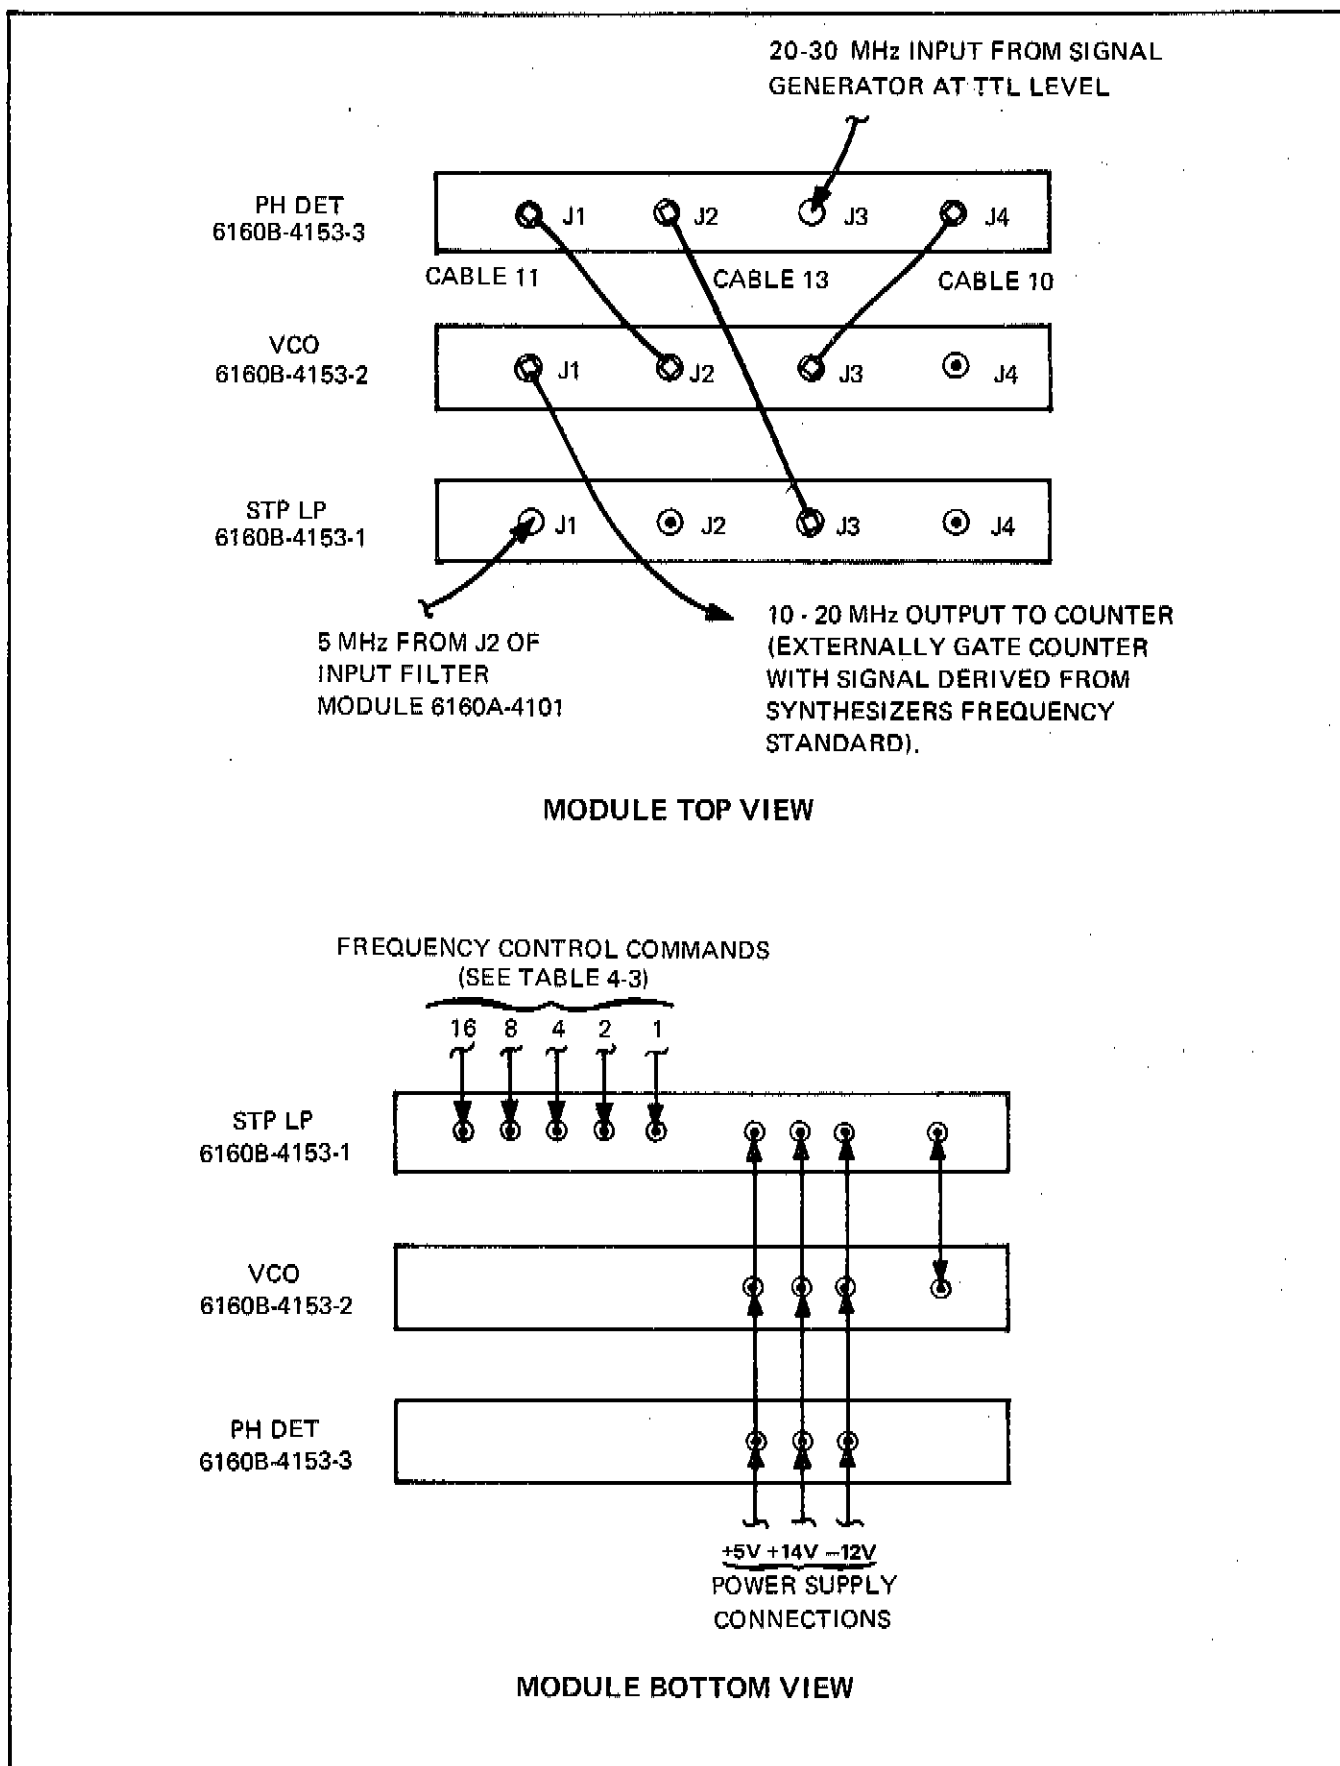

Figure 4-9. 1 MHz DIGIT GENERATOR EQUIPMENT CONNECTIONS, No. 1
- Interconnect modules as shown in Figure 4-9. Power supply inter-connection leads between VCO and PH DET modules should be long enough to allow access to adjustments within these two modules.
- Connect test equipment to terminals shown in Figure 4-9.